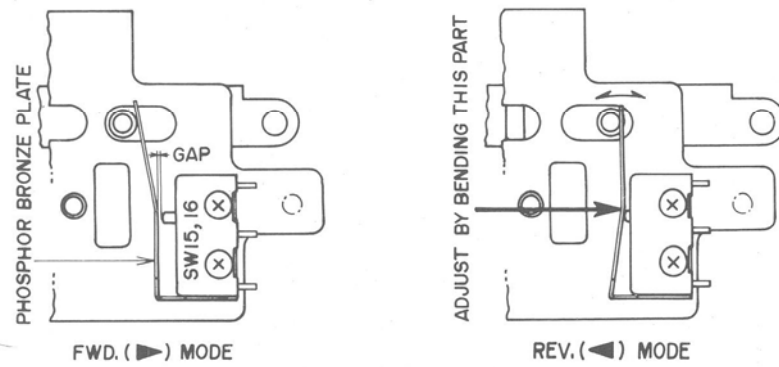

Fig. 11
- 1) At FWD mode, ($\blacktriangleright$) there should be a gap between the phosphor bronze plate, and the micro switch should be completely inactivated. (Fig. 11, left)
- 2) At REV mode, ($\blacktriangleleft$) the phosphor bronze plate should depress the micro switch so that it operates perfectly. (Fig. 11, right)
- 3) In case the micro switch does not operate perfectly, adjust by bending the phosphor bronze plate as shown in Fig. 11 (right).